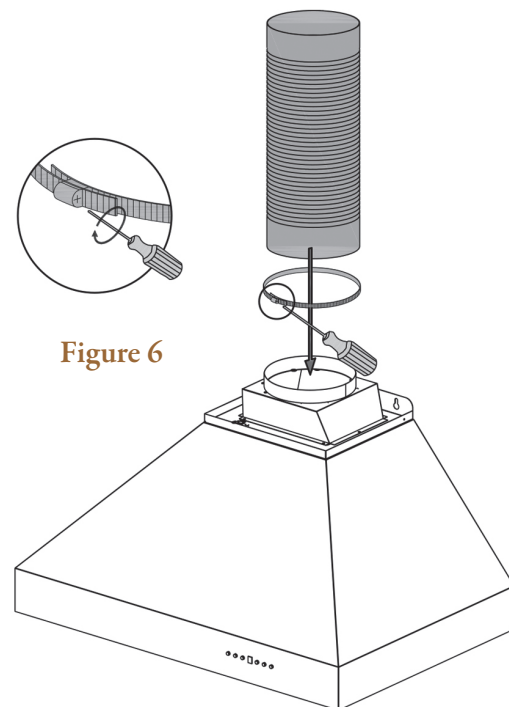

Figure 6
- 7 Connect the ducting to the transition piece using ring to hold into place. Attach ducting to the range hood. (Figure 6)
- 7 Connect the ducting to the transition piece using ring to hold into place. (Figure 6)